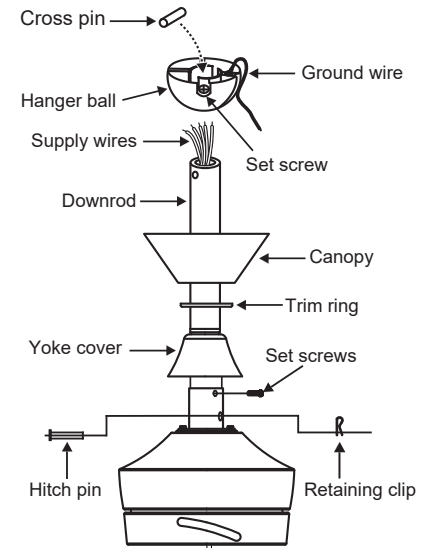

Fig. 9
Step 1. Slip the yoke cover, trim ring and canopy onto the downrod. (Fig. 9)
Step 2. Slide the hanger ball onto the downrod, insert the cross pin through the downrod and tighten. Tighten the set screw. (Fig. 9)
Step 3. Replace the hitch pin and retaining clip. Tighten both set screws. (Fig. 9)